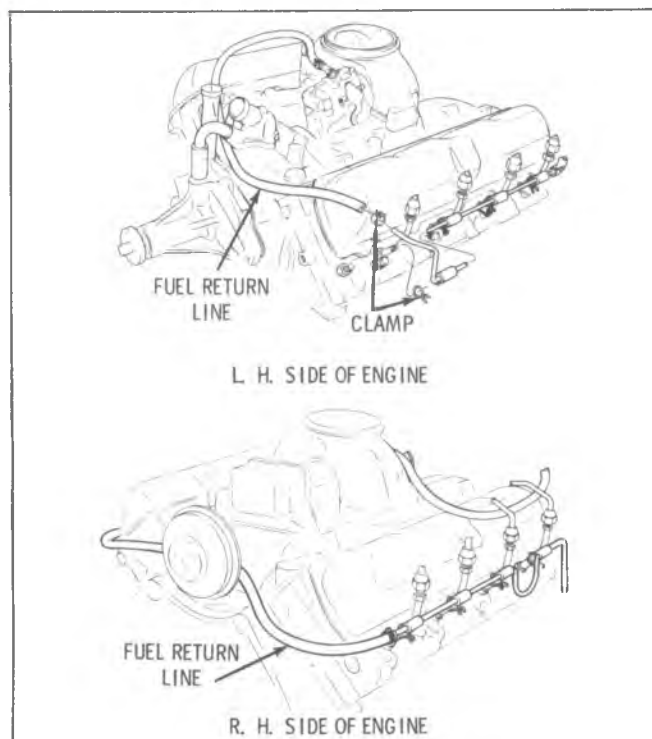

Fig. E-16—Fuel Return Lines
10. Slide the clamp off the fuel return lines at the nozzles and pull off the fuel return lines from each bank. (Fig. E-16)